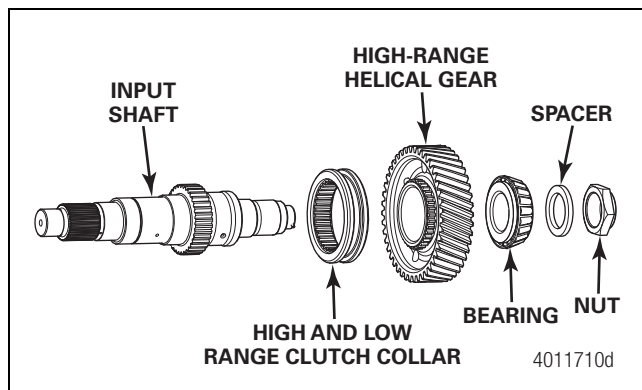

Figure 6.11
7. **MTC-4208XL/XLEV and MTC-4210XL/XLEV transfer cases only:** Install the high- and low-range clutch collar over the input shaft splines. Place the high-range helical gear over the input shaft with the spline side of the gear facing the low-range helical gear. Install the bearing cone with the large end of the cone toward the high-range gear. Install the spacer on the shaft next to the bearing cone. Figure 6.11.